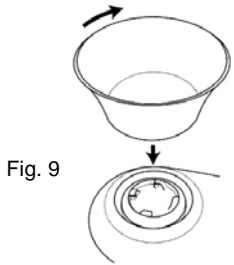

Fig. 9
1. Place the base of the mixing bowl onto the turntable of the stand. To fully lock the mixing bowl in place, press down and turn the mixing bowl in a clockwise direction until you hear it click into place. (Fig. 9)